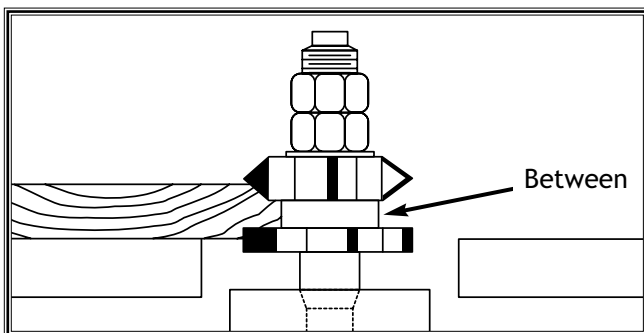

Figure 48. Rub collar mounted between two cutters.
2. **BETWEEN TWO CUTTERS** as shown in **Figure 48**. This setup has the advantage of making two profile cuts in a single pass. Although you have a rub collar beneath a cutter, this setup is safer than the previous setup. Any lifting of the workpiece will still cause the cutter to make an uneven cut. A second pass will correct the profile on the bottom edge, but the top profile will still have the gouge from lifting the workpiece into the cutter.